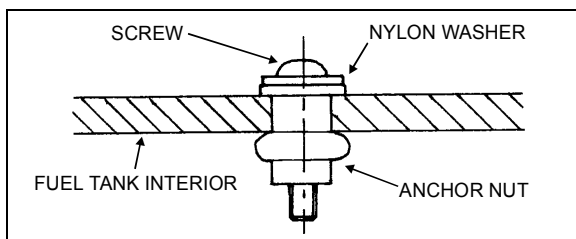

FIGURE 7: FUEL TANK REPAIR
5. Place assembly in drill hole. Tighten screw by 10 complete turns. Refer to Fig. 7.